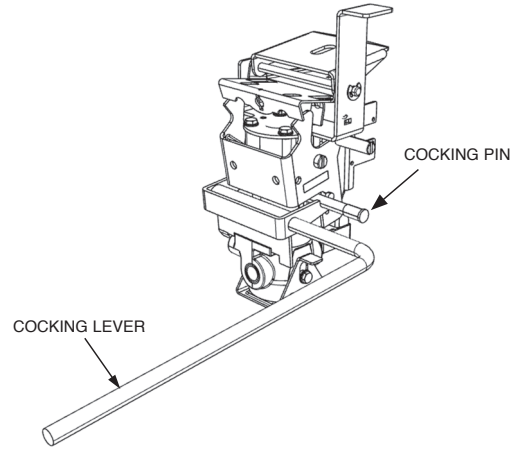

FIGURE 5-32
10. Insert the cocking lever (Part No. 441042 or Part No. 441041) on the left side of the release mechanism, with the movable flange resting securely against the corner of the cartridge receiver and spring housing, and with the notched lever portion engaging the cocking pin on **both** sides of the release mechanism. See Figure 5-32.